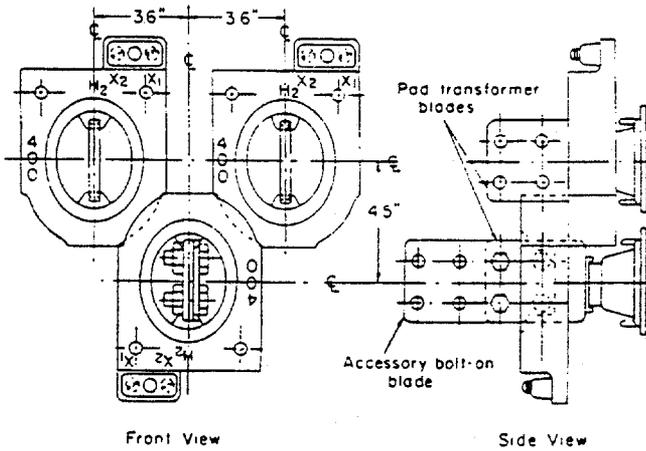

Fig. 8. Three Grecian Urn models (one inverted) mounted in "stacked" arrangement on pad transformers having very restricted spacing
On the very small pad transformers where spacing is even more restricted, the "Grecian Urn" designs can still be used. One such mounting is the so-called "stacked" arrangement as shown in Fig. 8.
4.0	Stacked Arrangement (X ₂ Stacked & Inverted) (See Fig. 8)
5.75	Flush Mounting With X ₂ Unit Inverted (See Fig. 8)